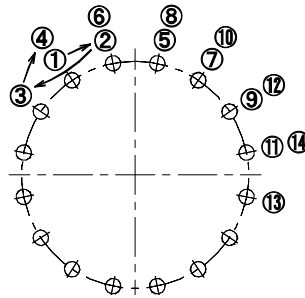

Figure 20 Bolting torque checking order
4) Check the tightness of fastened bolts and nuts with torque wrench by the bolting torque shown in Table 4 once around the socket in accordance with the order shown in Figure 20. In this case, use calibrated torque wrench.